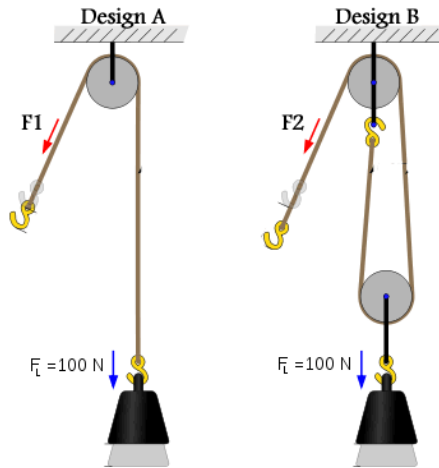

Figure 13: Pulley Setup 2
b. Figure 13 shows two pulley setups. Explain F_1 and F_2 when lifting the 100N load.